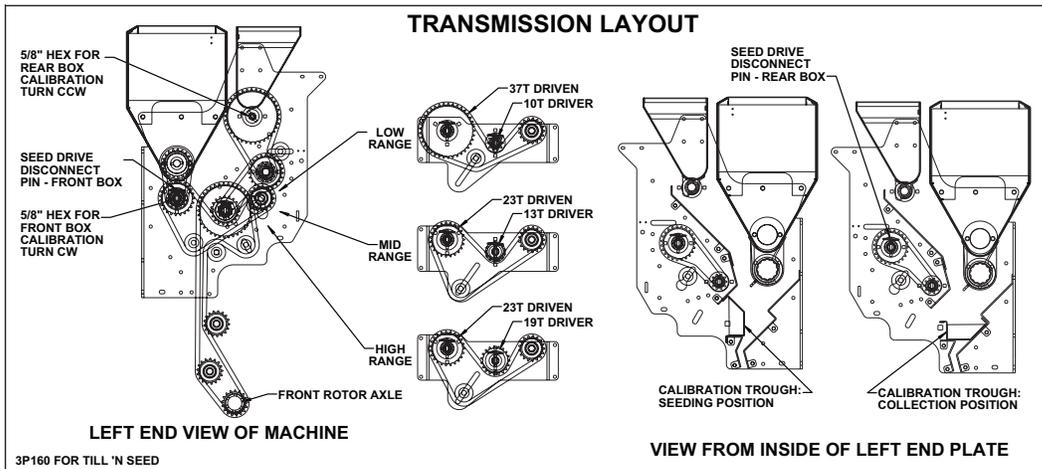

Figure 3-10: BPS6 Transmission Decal
1. Refer to the Transmission Range Layout Decal inside the Transmission Shield to choose a range. **See Figure 3-10.**